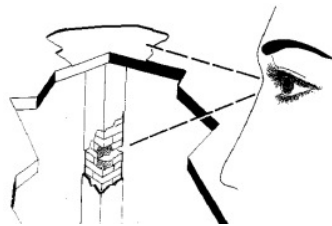

fig. 7.6
14. The flooring should be sufficiently level and capable of supporting the cabinet (fig. 7.6) See packing list (Kg) for weight details.